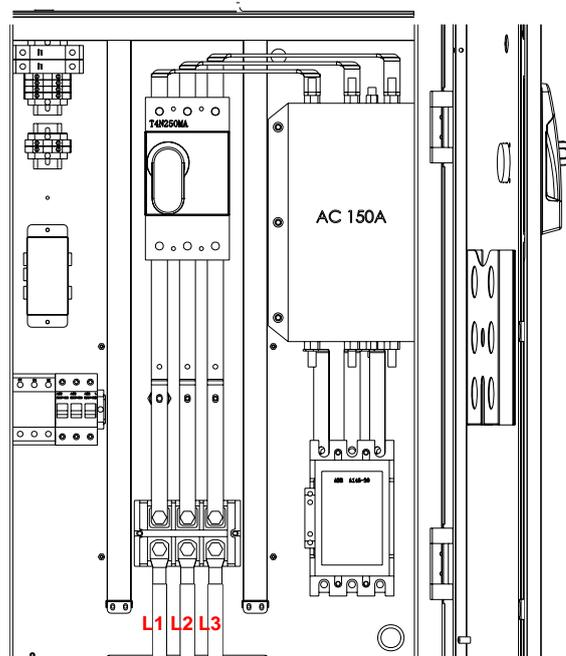

Figure 3-11 AC output connection
(2) Connect the power grid A, B, C cables to L1, L2, L3 terminals of the inverter, as shown in Figure 3-11: